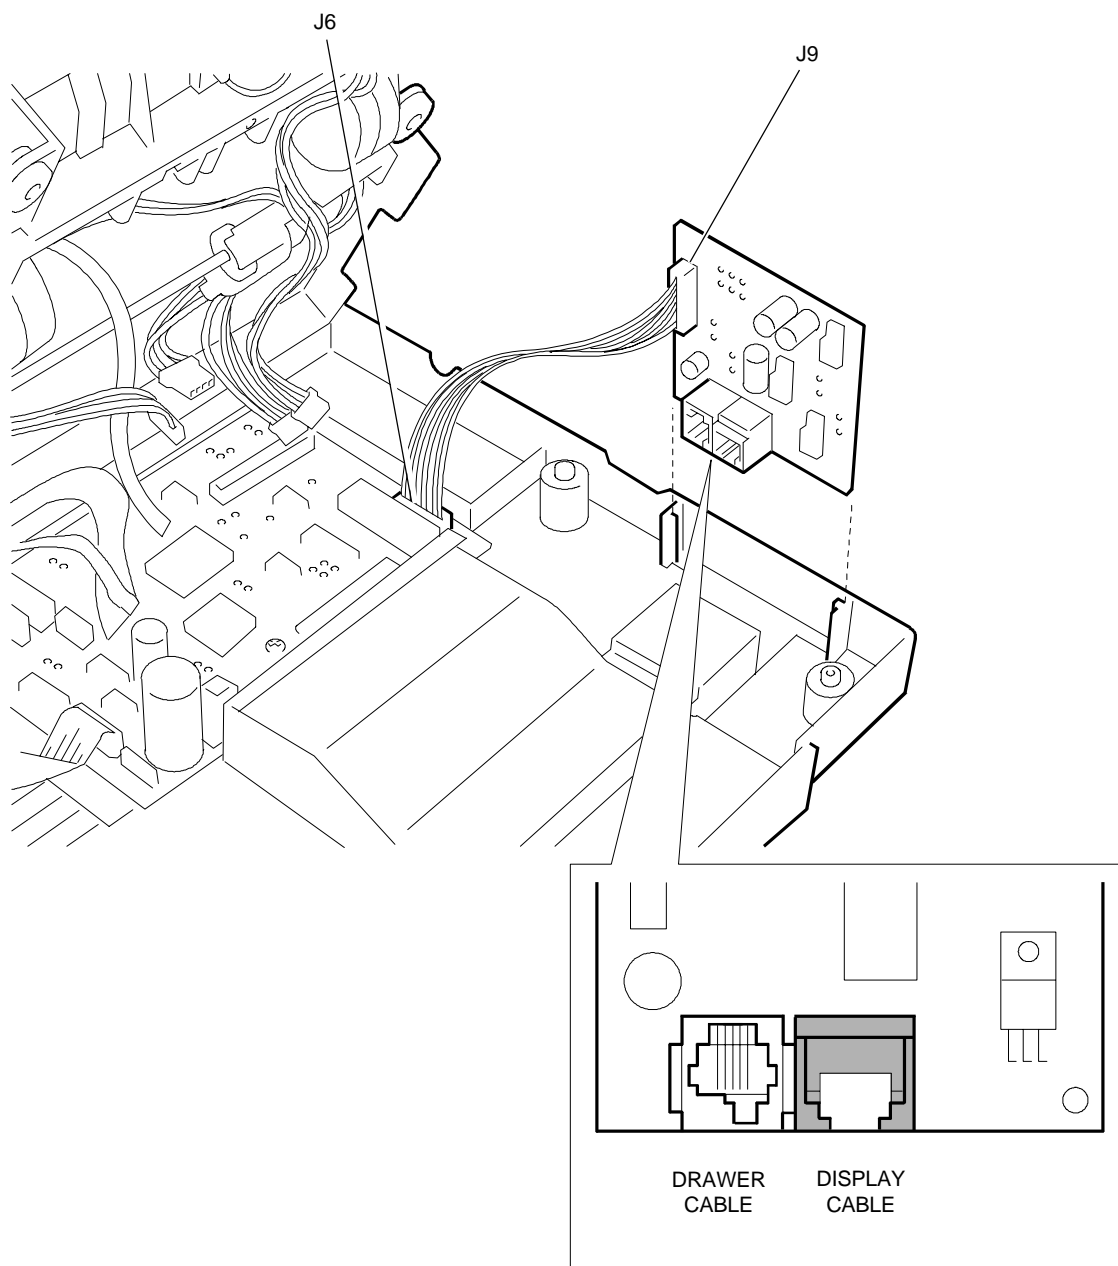

Figure 8-1
- Insert the card in the slots on the base (see Figure 8-1) and then attach the connection cable to the main board.